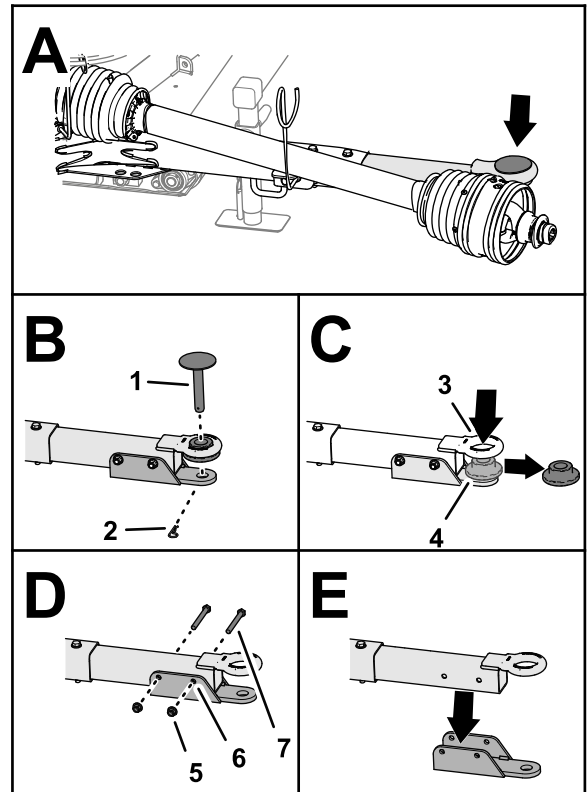

Figure 7
1. Remove the hairpin that secures the hitch pin to the tow bar, and remove the hitch pin (Figure 7).
2. Remove the flange bushing from the pintle eye (Figure 7).
3. Remove the 2 flange locknuts and 2 capscrews that secure the clevis bracket to the tow bar, and remove the clevis bracket (Figure 7).